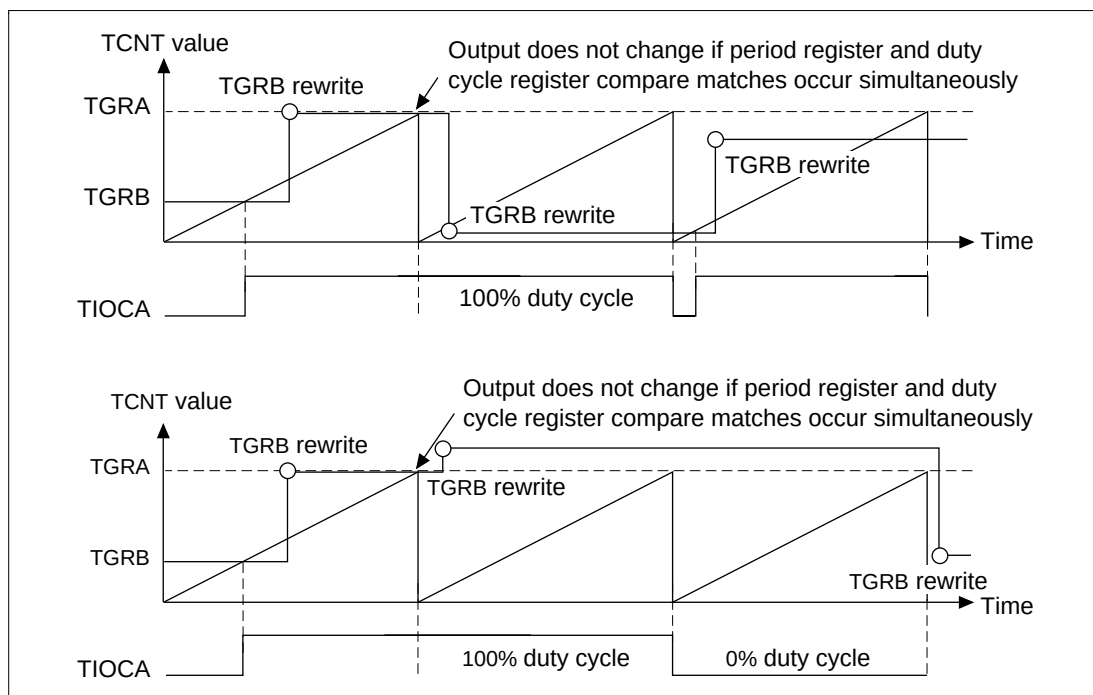

**Figure 12.28 PWM Mode Operation Example (100% Duty Cycle)**
**100% Duty Cycle:** Figure 12.28 shows an example of a 100% duty cycle PWM waveform output in PWM mode.